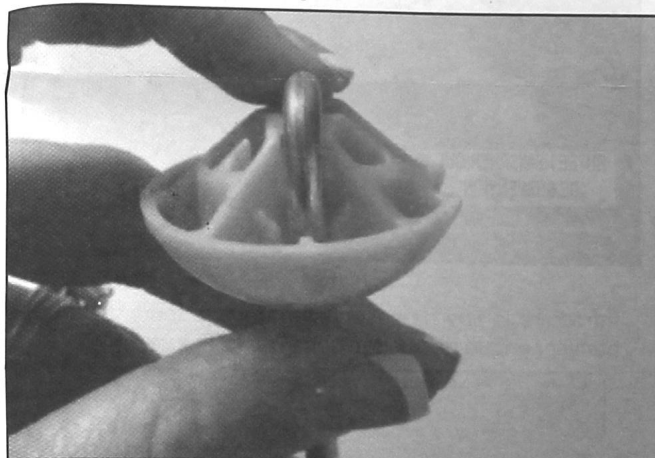

FIGURE 4
5. Align end of suspension damper rod hook into pocket on suspension ball. See Figure 4.